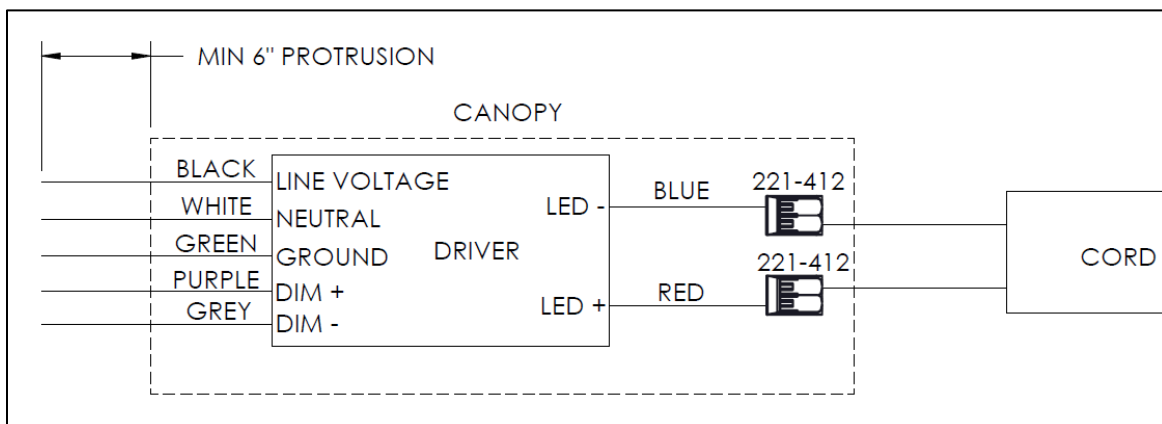

FIG. 12 – WIRE DIAGRAM
7. Make wire connections between driver and fixture cord inside the junction box (by others) in accordance with the national electrical code and all applicable local and state codes. See wire diagram shown in FIG. 12 and instructions on how to shorten/install the cord on page 7.
8. Make wire connections between building supply and driver. See WIRE DIAGRAM shown in FIG. 12. Make all wire connections in accordance with the national electrical code and all applicable local and state codes.